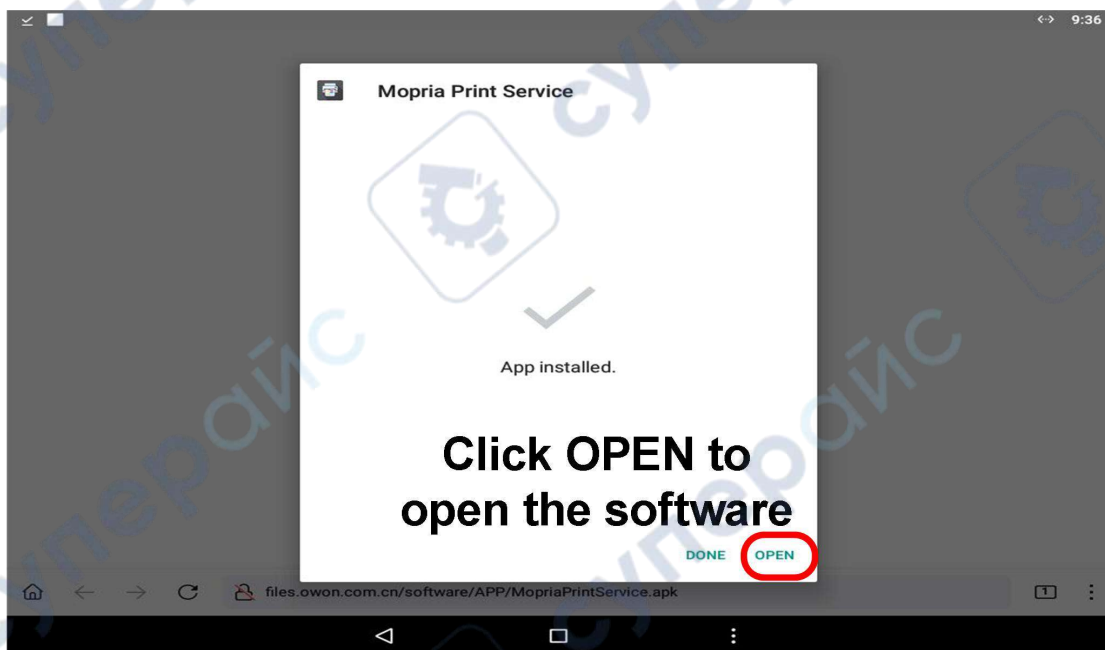

Figure 5
2、 In official website install print app, steps as shown in Figure1 to Figure 5.
⑤ After install success, click open can open print app. As shown in Figure 5.